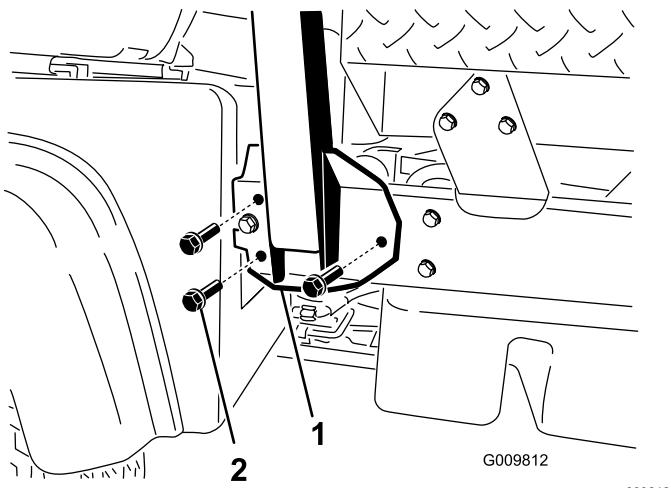

Figure 3
2. Align each side of the ROPS with the mounting holes on each side of the machine frame (Figure 3).
3. Secure the ROPS mounting bracket to the machine frame using 3 flange-head bolts (1/2 x 1-1/4 inches) on each side (Figure 3).